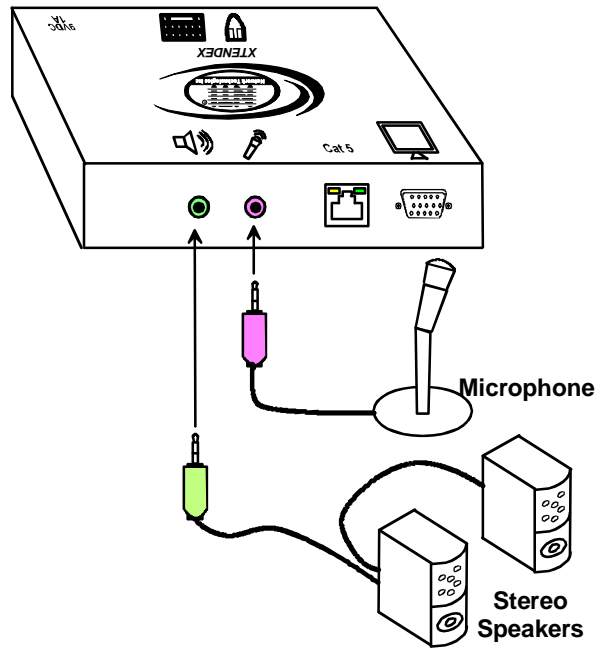

Figure 7- Connect speakers and microphone to the Remote Unit
5. If the Remote Unit has audio support, connect the cable from the remote speakers to the 3.5mm stereo audio jack with the speaker symbol on the Remote Unit. (See Fig. 7) Connect a microphone to the 3.5mm stereo audio jack with the microphone symbol on the Remote Unit.